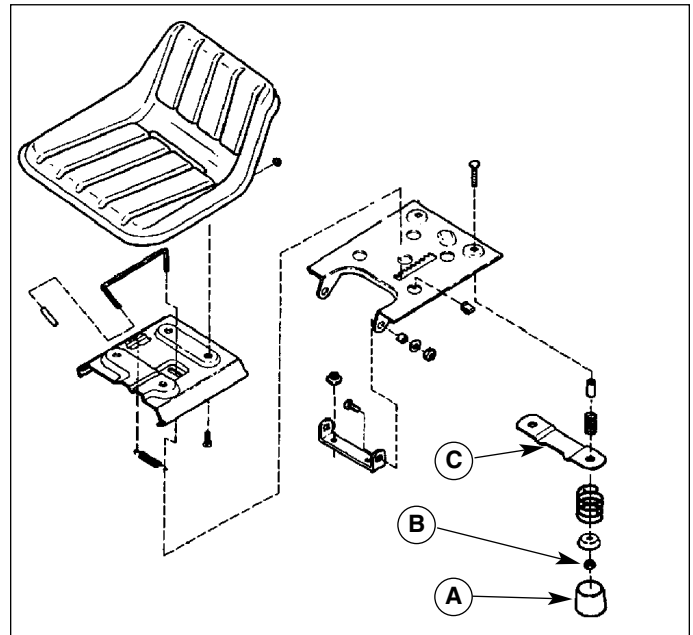

**Figure E-1. Disconnect Operator Present Switch**
1. Tilt the seat forward and disconnect the two wire cable harness attached to the operator present safety switch (A, Figure E-1). Note that the harness plug has a locking tab that must be released before disconnecting plug.
2. Remove the wire harness from the speed clip (B) that holds the harness to the bottom of the seat.
2. Remove the wire harness from the speed clip (B, Figure E-1) that holds the harness to the bottom of the seat.